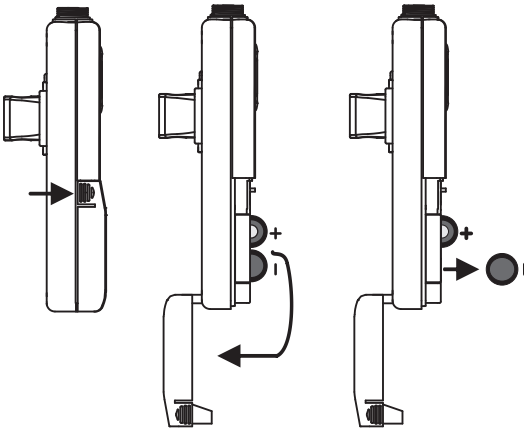

Fig. 17
1. Press side hinges to open battery compartment cover, see Fig. 17.